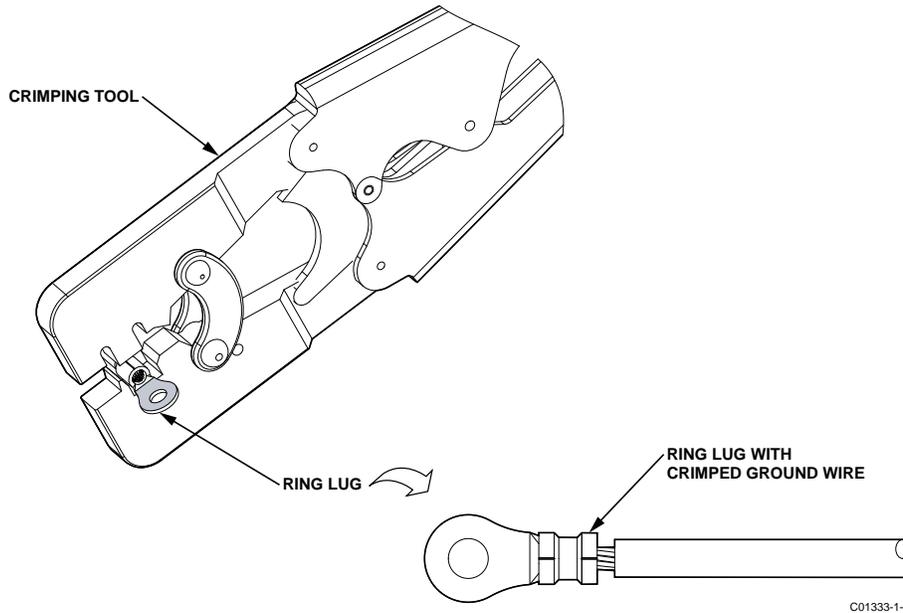

**Figure 6 – Removing Ground Wire Securing Hardware from Enclosure**
- Remove M4 socket cap screw, M4 split washer and ring lug from enclosure using M4 hex key (Allen wrench). The enclosure's ground wire hardware is installed at the factory. See Figure 6 above.